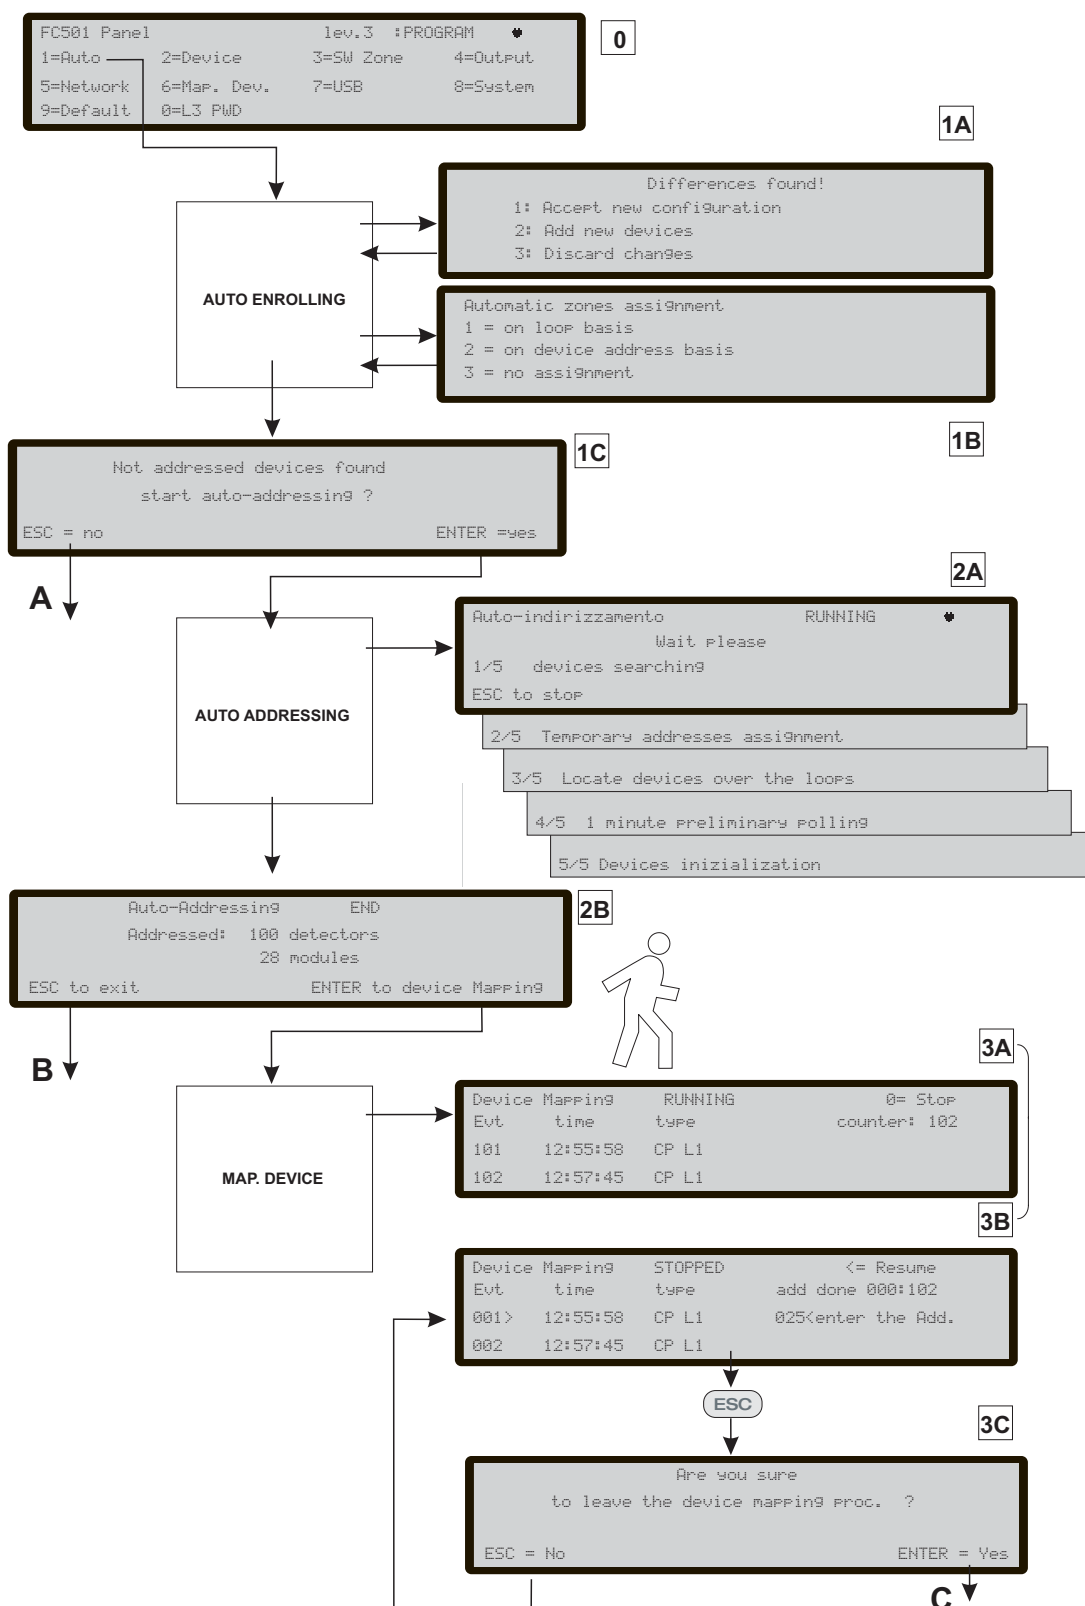

Figure 55 Programming option "AUTO"
During this phase, the panel will ask what pattern of automatic assignment of zones shall be applied to found devices (see Figure 55, 1B).
In the case of panel already configured, it indicates any differences and asks how to proceed (see Figure 55, 1A), in which case the scheme of Automatic assignment of the zones will be applied only to new devices found.
The second phase will be started, if during Auto-learning phase, not addressed devices have been identified or have an address greater than 128. During this phase all the not addressed devices will be detected. The panel assigns them a temporary address and configure them at default (see Figure 55, 2A).
If you stop the AUTO option at the end of this second phase, see Figure 55 (B) will happen:
- Locate the positioning in the system of all the devices through their activation (in the case of output modules only, sounders or beacons, they will be suitably activated by the panel (see Figure 55, 3A).
In each case at the end of the device Mapping phase (see Figure 55, C) a check is performed to detect the presence of "doubles addresses"; in this case the involved addresses will be indicated and it will not be possible to abandon the procedure until the complete removal of the error condition.